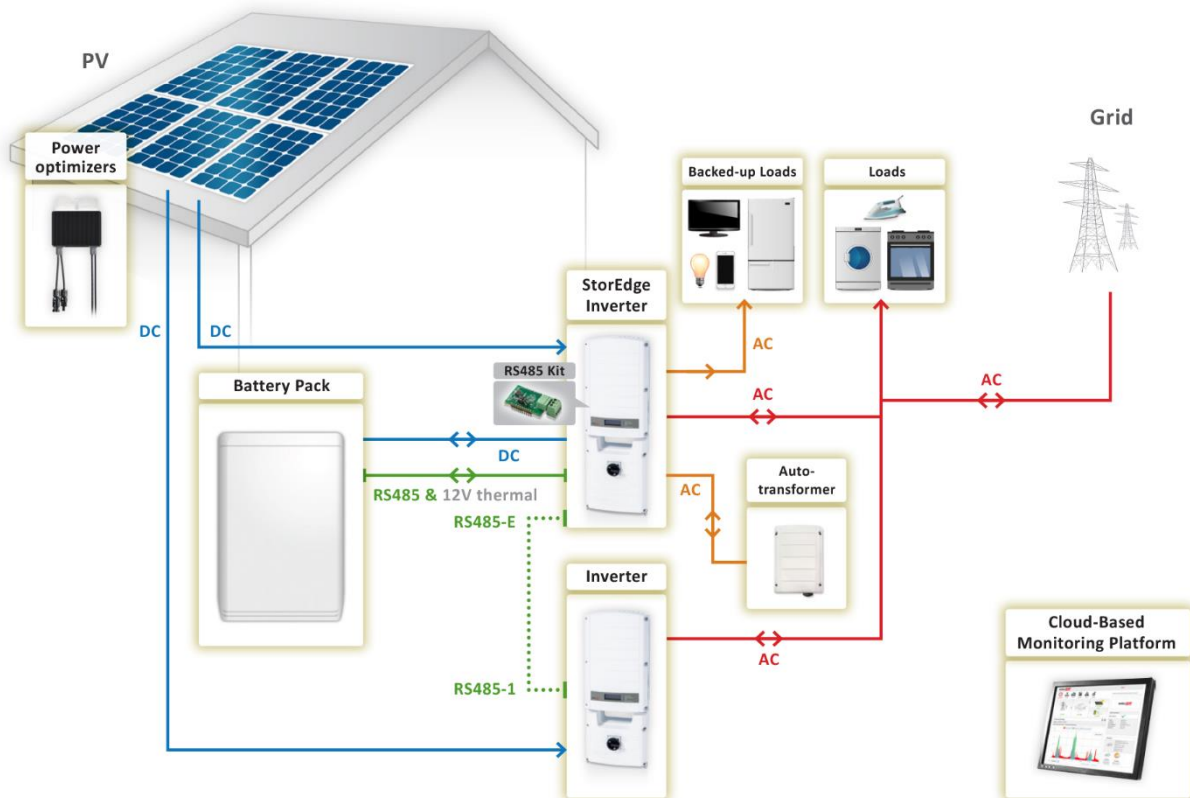

Figure 17: Backup Power Only - Large residential PV systems
- 1** Install the RS485 Expansion Kit in the inverter connected to the battery (SolarEdge inverter in Figure 17: Backup Power Only - Large residential PV systems).